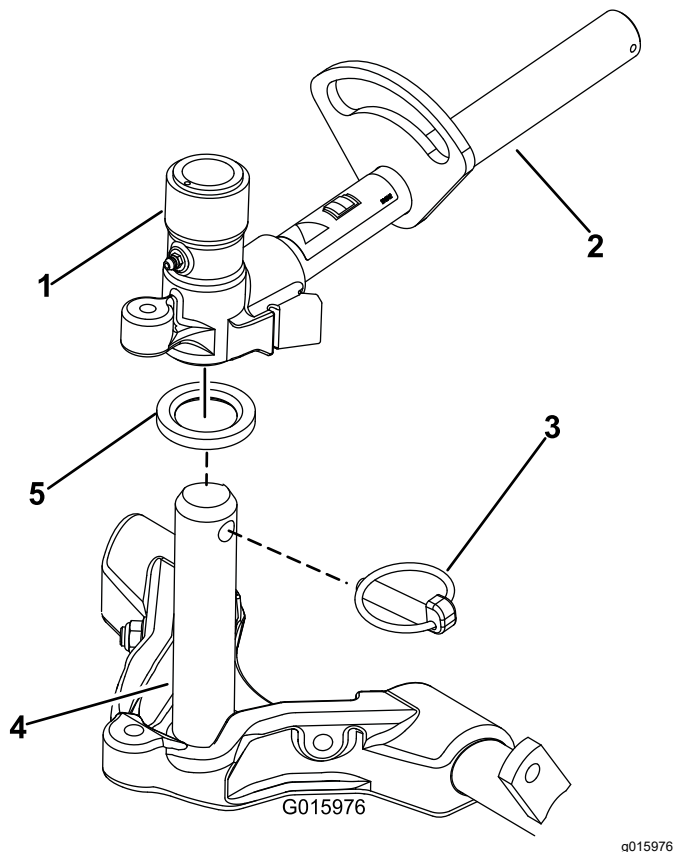

Figure 16
8. Coat the carrier frame shaft with clean grease (Figure 16).
9. For the front cutting units, slide a cutting unit under the lift arm while inserting the carrier frame shaft up into the lift arm pivot yoke (Figure 16). Make sure the thrust washer is in position on the carrier frame shaft.
10. Secure the carrier frame shaft to the lift arm yoke with the Klik pin (Figure 16).
- B. Insert the lift arm yoke onto the carrier frame shaft (Figure 16).